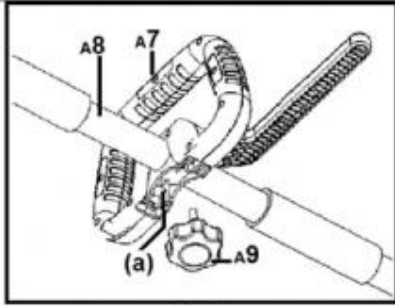

Fig.3
a) **HANDLE ASSEMBLY (FIG 3)**